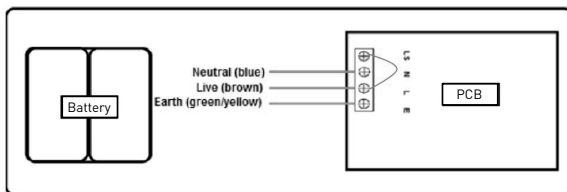

Fig 3
- For maintained operation, carefully wire a link between Live (L) and Switched Live (LS), as shown in Fig 3